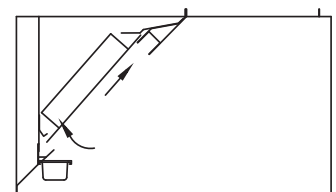

Fig. 21
1. Slide the top edge of the second stage filter into the top rear filter channel; Fig. 21.